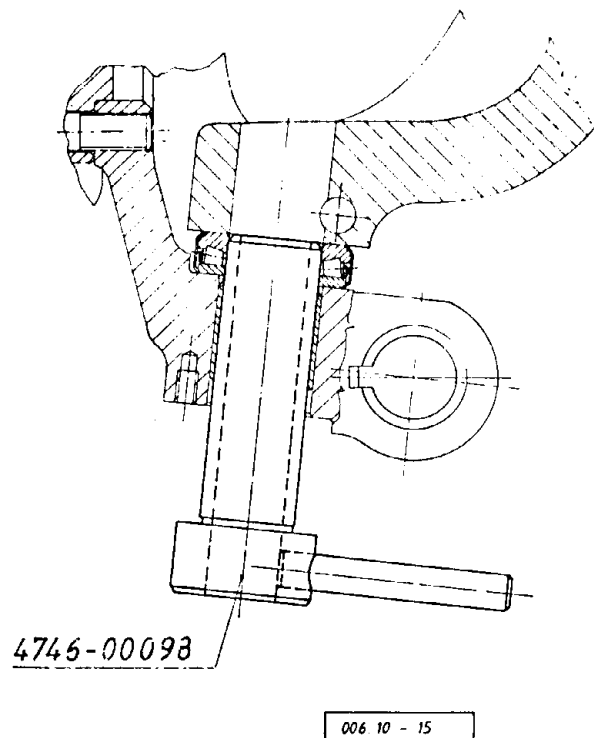

Fig. 2.: ASSEMBLING THE AXIAL BEARING OF THE LOWER KNUCKLE PIN
By means of the mandrel shown secure the axial bearing (66) until pulling off the steering knuckle (Fig. 2.).
By means of the lower service mandrel fit the axial bearing (**66**) to place shown in **Fig. 2.**, then push the service mandrel in to bottom out.